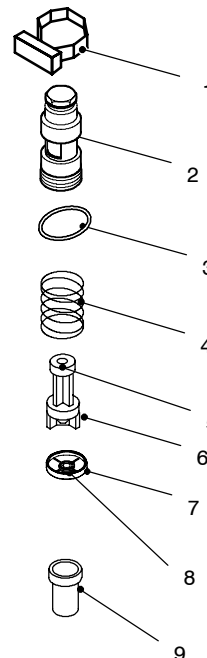

Fig. 14.3
When the flow rate through the d.h.w. circuit reaches about 2,5 litres/min', the float 6 (Fig. 14.3) is drawn towards the right.
14.2 Description and location of parts (Fig. 14.3)
- 3 Unscrew the body 2 (Fig. 14.3) and extract the flow switch group.
- 4 To remove the filter from the flow switch group separate the filter 9 from the threaded ring (Fig. 14.3) by levering it.
- 3 Unscrew the threaded ring 7 (Fig. 14.3) and remove it from the body 2.